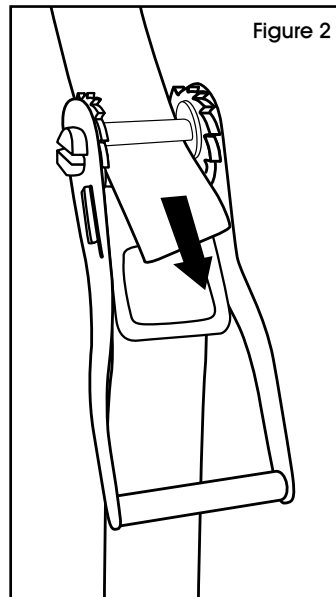

Figure 2
2. Insert free end of strap through mandrel slot in ratchet and pull through until strap is snug around the load. (See Figure 2)